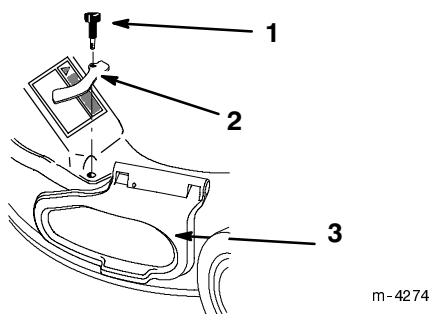

Figure 48
12. Secure the front right corner of the discharge tunnel and the side opening cover with the side cover clamp removed previously and the long knob supplied with the grass catcher (Fig. 48).